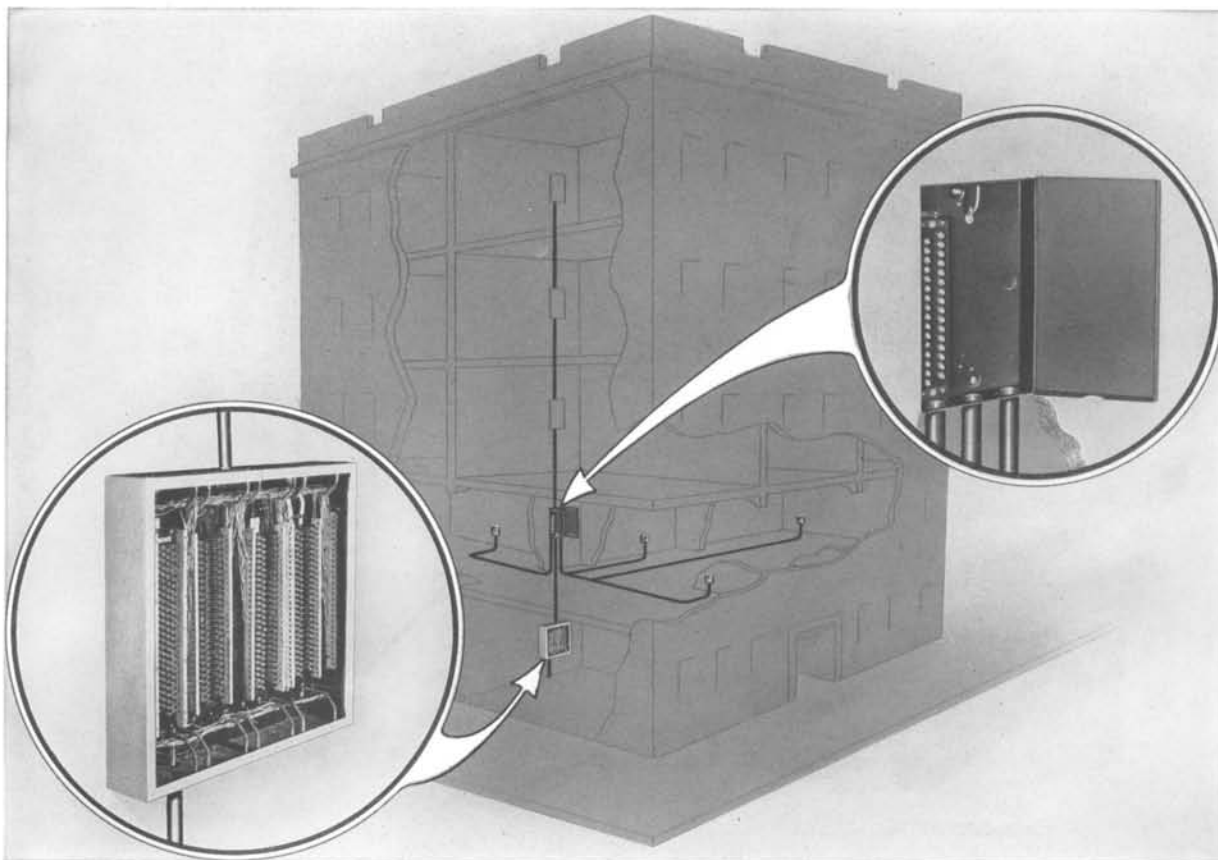

FIG. 1—APARTMENT HOUSE CONDUIT DISTRIBUTION
- Determine what type of system has been installed (see Figs. 1 and 2).